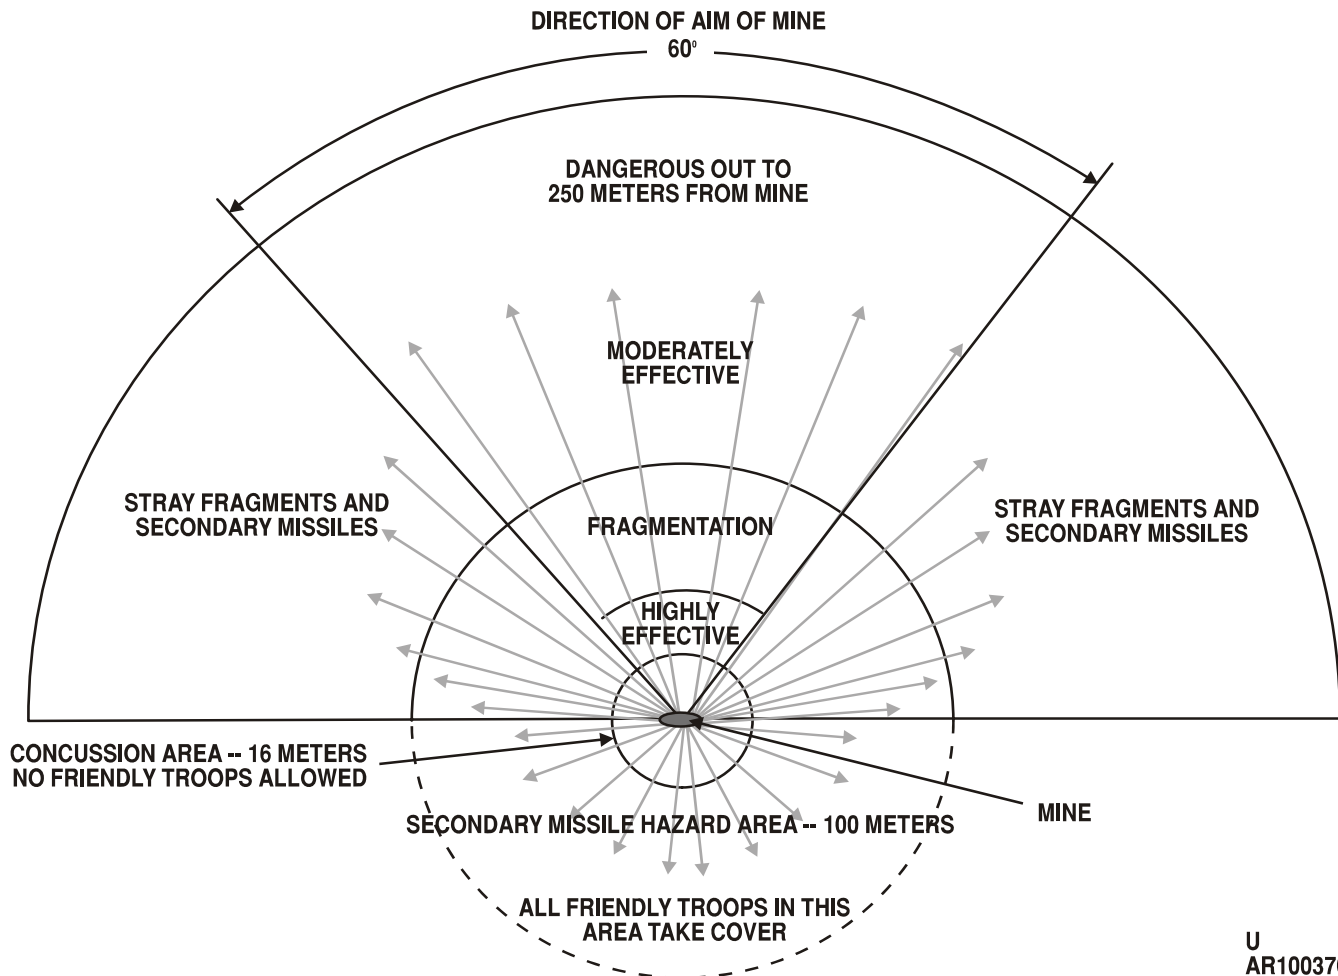

Figure 2-12.2. Casualty and danger areas of antipersonnel mine M18A1 with non-electric initiation system.
and 60-degrees wide at a range of 50 meters (fig. 2-12.2). These balls are effective up to a range of 100 meters and are dangerous up to 250 meters in front of the mine.
(2) *Backblast.* Within an area of 16 meters (figure 2-12.2) to the rear and sides of the mine, backblast can cause injury by concussion and secondary missiles. Up to 100 meters to rear and sides of mine, all friendly personnel must be under cover for protection from secondary missiles.
POSITION MINE SO THAT FRIENDLY TROOPS TO REAR AND SIDE OF MINE (FIG. 2-12.2) WILL NOT BE ENDANGERED. FIRING POSITION SHOULD BE AT LEAST 16 METERS TO REAR OR SIDES OF MINE.